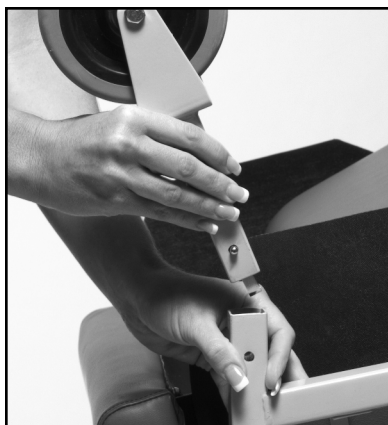

Figure 2
2. Insert front caster assemblies into front legs of recliner frame until spring buttons pop out of the openings of both sides (Fig. 2).